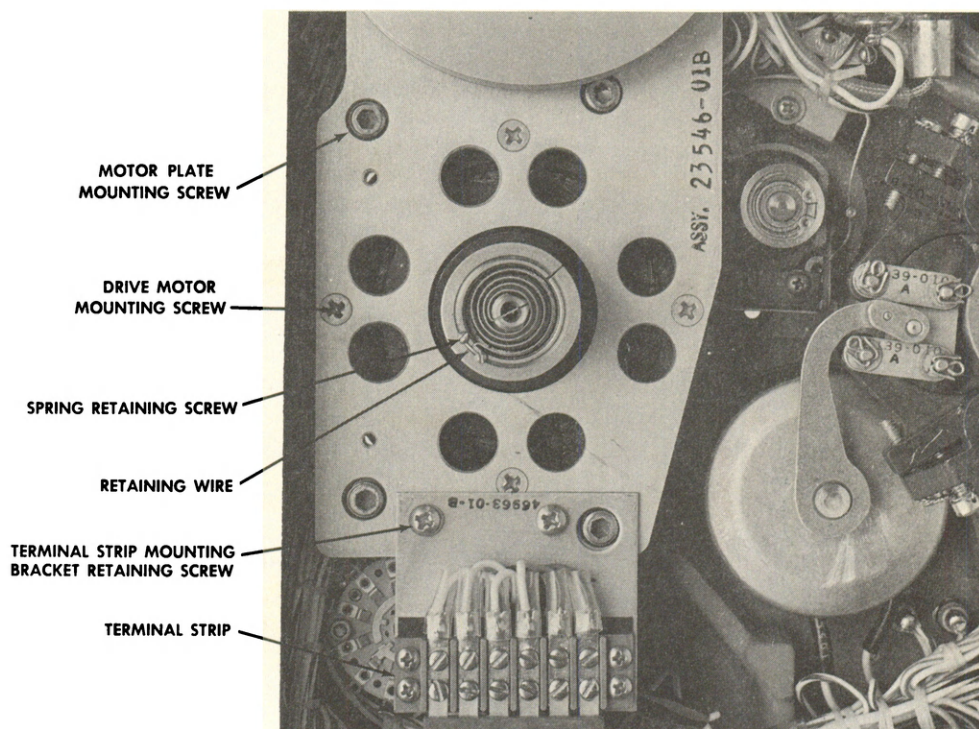

Figure 6-10 Drive Motor Plate
- Step 2: Unscrew the two cross-recessed retaining screws holding the terminal strip mounting bracket to the drive motor plate. See Figure 6-10.